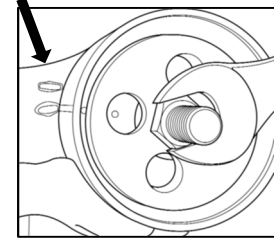

Fig. 19
6. Rotate the funnel "D" aligning mark with the one on the trailing arm (Fig. 19).